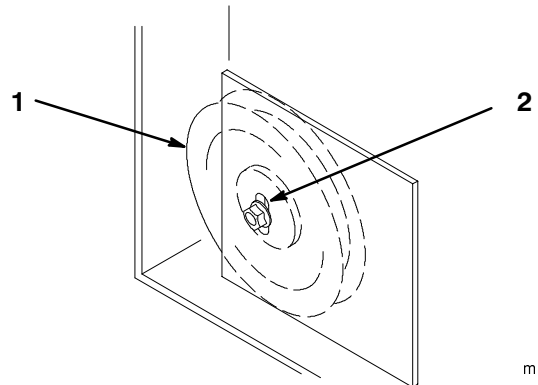

Figure 50
9. If adjustment is required, loosen the fixed idler on right support plate and move up or down in adjustment slot (Fig. 50). To relieve belt tension lift up on spring loaded idler.